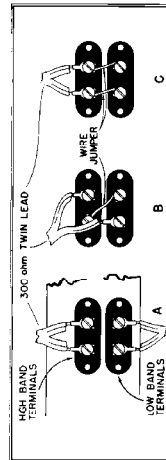

Fig. 2. Alternate antenna connections
1. For those who use separate Hi and Low Band antennae, with two lead-in cables, connect the Hi-Band leads to the two top terminals marked Hi-Band, connect the Lo-Band leads to the two bottom terminals marked Lo-Band. See fig. 2, sketch A.
2. For those who use a combined Hi-Lo Band antenna, better known as a "All Wave Antenna" with one lead-in cable, connect as shown in fig. 2, sketch B.
3. In some cases due to location or environment of the receiving antennae, better results can be had by connecting the lead-in as shown in fig. 2, sketch C.